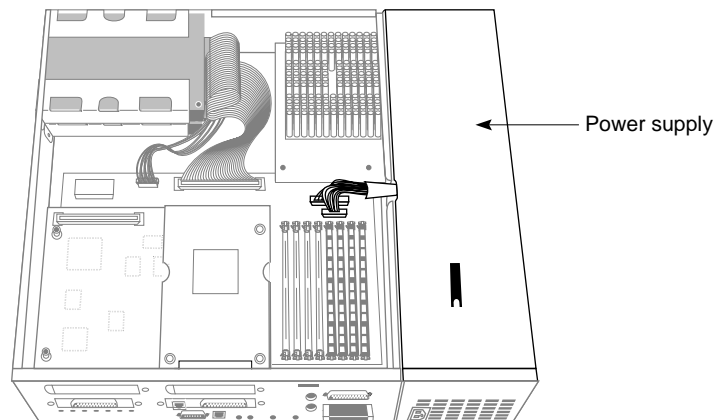

Figure 9-28 Locating the Power Supply
5. Move the system or position yourself so that you are facing the rear of the system. Locate the power supply, as shown in Figure 9-28.